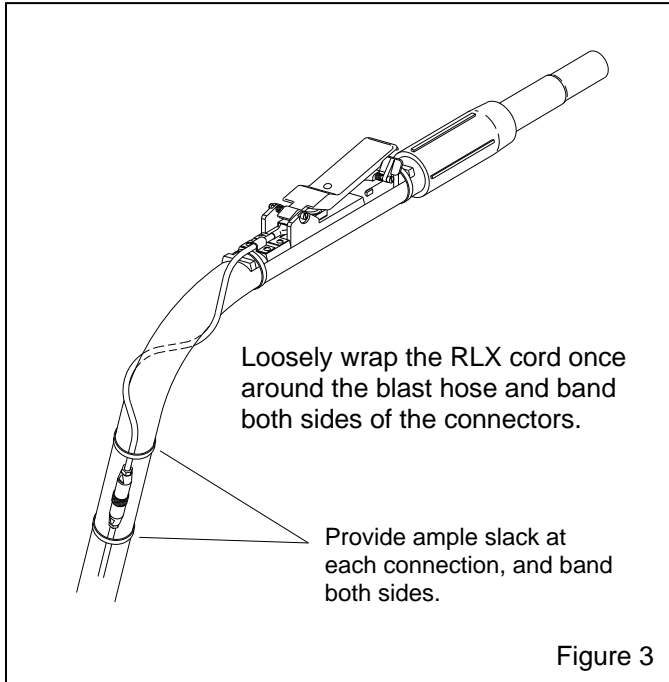

Figure 3
**2.5.3** Loosely wrap the whip cord from the electric control handle once around the blast hose as shown in Figure 3, and then connect it to the control cord. If the cord is not loosely wrapped and securely banded as described, excessive strain will cause the wires to pull out of the connectors or electric switch when the blast hose is bent or pulled.
**2.5.4** Band the cord to the hose on both sides of the cord connections as shown in Figure 3.